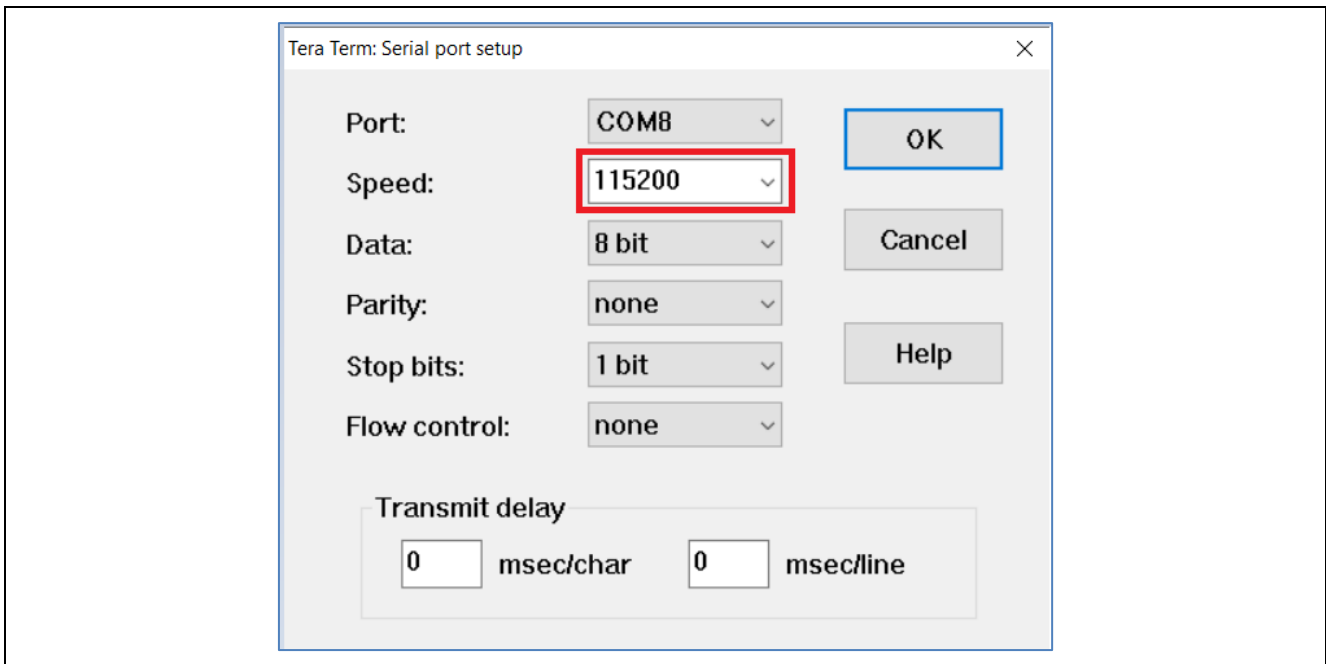

Figure 9. Select 115200 on the Speed Pulldown
- Using the **Setup** menu pull-down, select **Serial port...** and ensure that the speed is set to 115200, as shown in Figure 9.